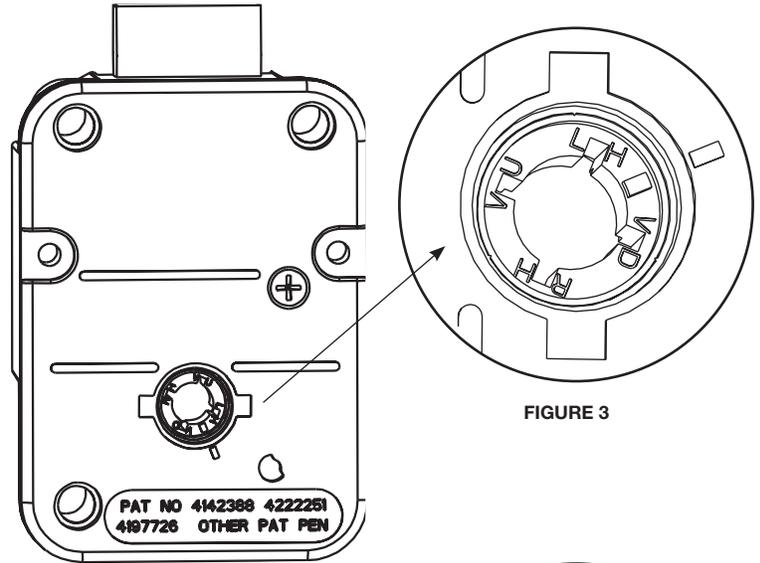

FIGURE 3
5. Insert the spindle through the spindle hole of the door. With the bolt retracted, carefully thread (clockwise) the spindle into the drive cam until tight. Next, rotate (counterclockwise) at least 1/2 turn until the groove in the spindle is aligned with the correct spline position. (Refer to the Spline Key Position Chart - see **Figure 3**.)
2. You will need to align the mark on the drive cam to the one on the back cover. See **Figure 3**.